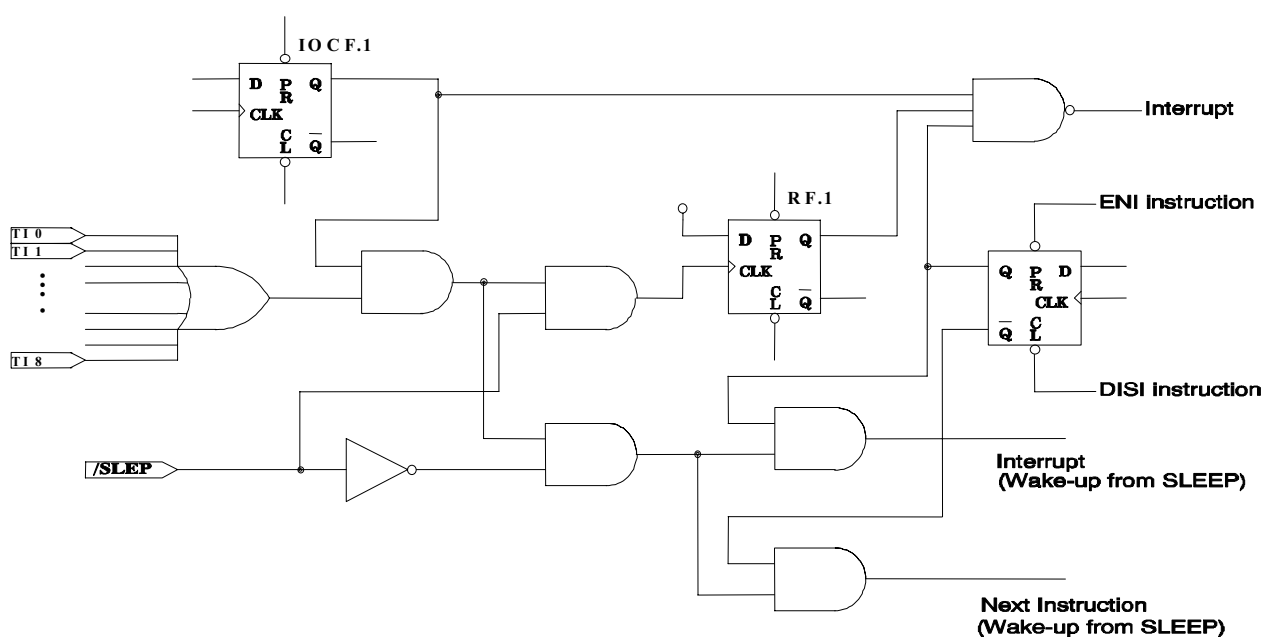

Fig. 10 Block Diagram of I/O Port 5 with Input Change Interrupt/Wake-up
- Global interrupt is enabled by the ENI instruction and is disabled by the DISI instruction. Refer to Fig. 10.